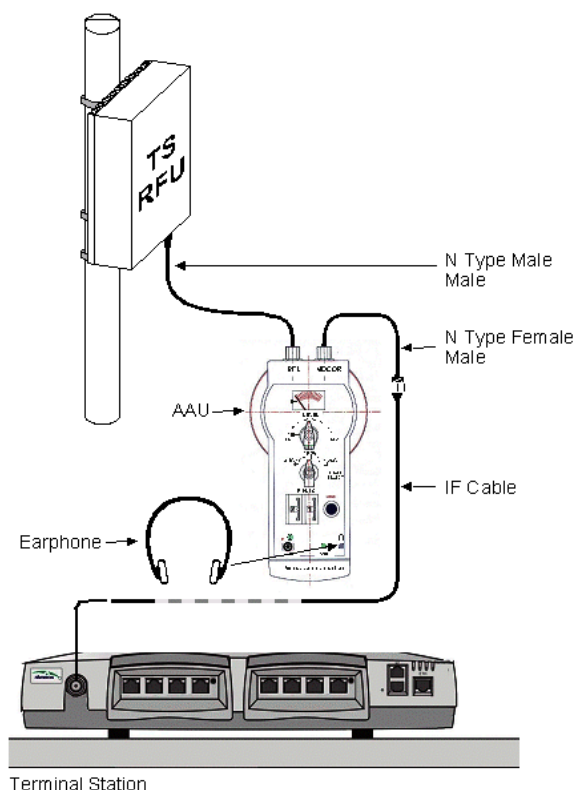

Figure 8-17: Connecting the AAU
3. Connect the power cable (part of the AAU kit) to the TS-RFU as shown in Figure 8-17.